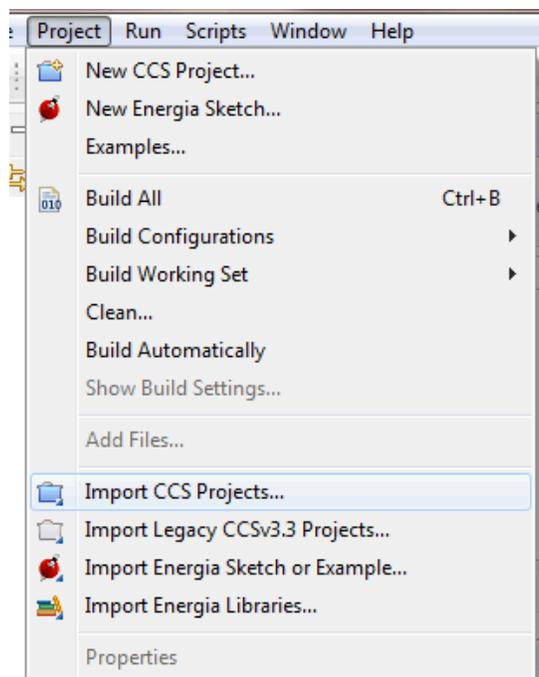

Figure 4. Import CCS Project
1. Open the Project: Click Project → Import CCS Projects (see Figure 4) and browse to select the folder containing the CCS project file in Figure 3.